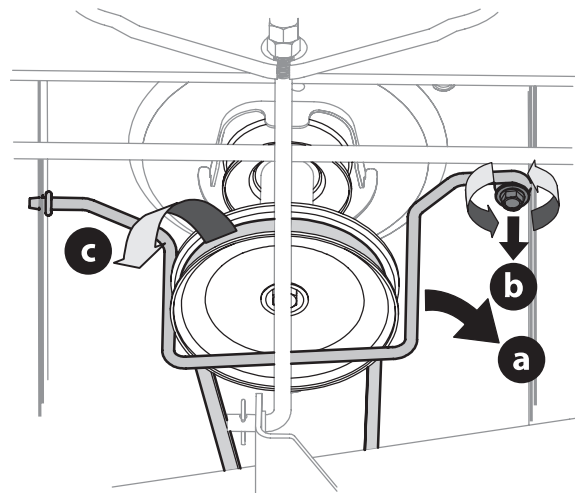

Figure 26
- Remove the belt-keeper rod (a), from around the tractor's engine pulley, by removing the self-tapping screw (b) that secures it (Figure 26).
- Remove the belt (c) from around the tractor's engine pulley and idler pulley(s) (Figure 26).